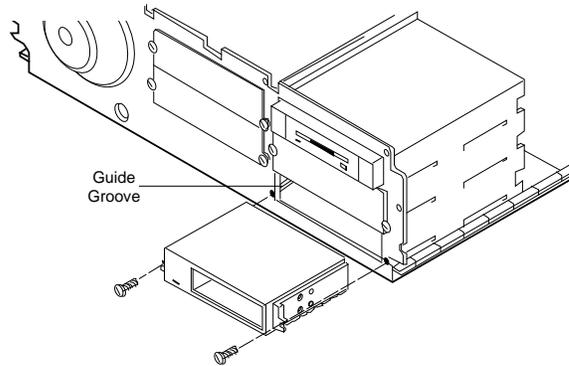

Figure A-30. Inserting the Drive
3. Align the drive with the chassis so that the mounting rails slide into the grooves. Secure the drive in the chassis using the two screws removed from the metal shield as shown in Figure A-30.